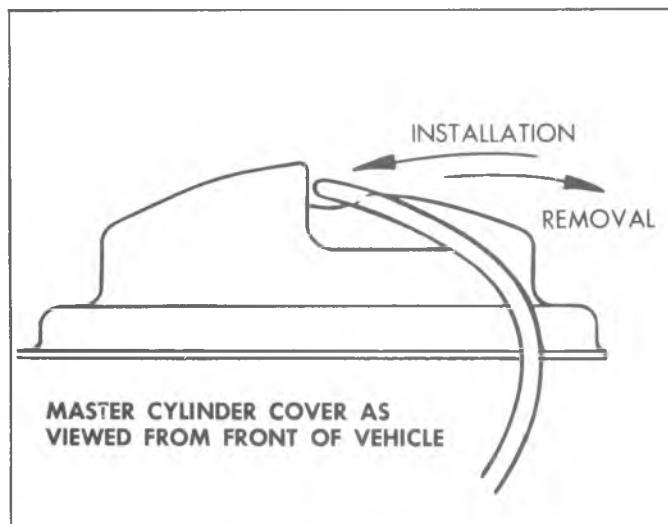

Fig. 32-Master Cylinder Cover Installation
- CAUTION:** When installing the master cylinder cover, the retaining bail should be slipped over the lower cover bosses (fig. 32). Incorrect installation could result in bail tension loss and fluid leakage.
**CAUTION:** When installing the master cylinder cover the retaining bail should be slipped over the lower cover bosses (fig. 32). Incorrect installation could result in bail tension loss and fluid leakage.